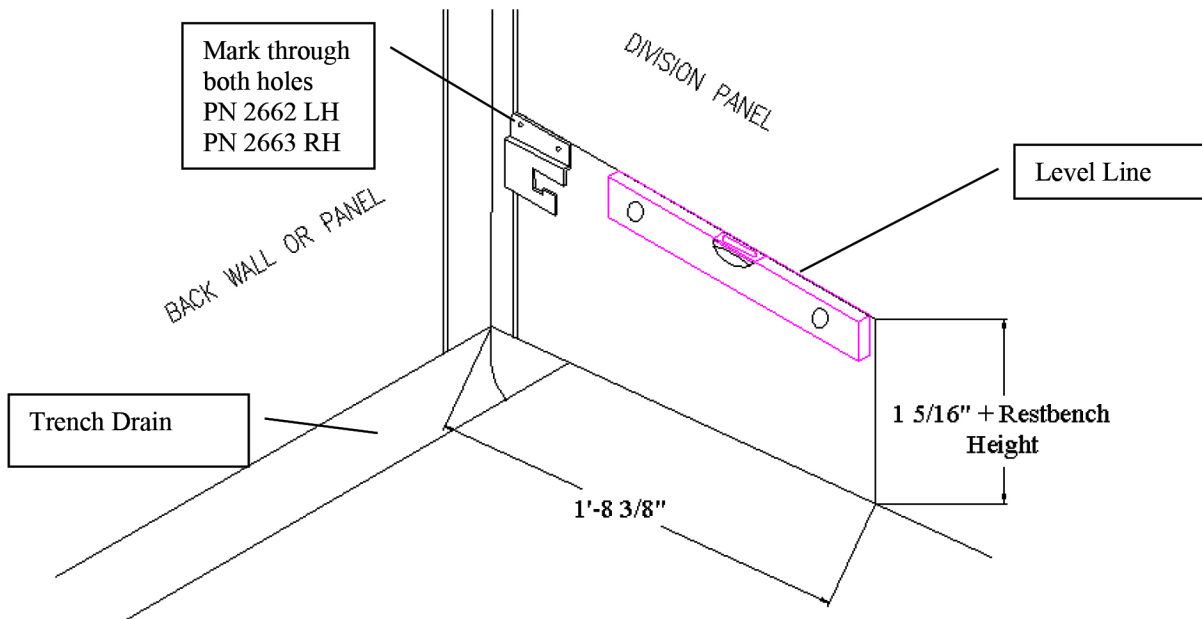

Figure 1.
1. Measure out from the back wall of the run a distance of $1' - 8 \frac{3}{8}"$ and make a mark on the division panel (or side wall). Then measure up vertically a height of $1 \frac{5}{16}"$ plus the height of the rest bench (example: If you have a 6" high rest bench you would measure up $7 - 5/16"$). Make a mark on the panel (wall). Using a level, transfer the last mark you made to the rear of the Division Panel. Do this on both sides of the run. See Figure 1.